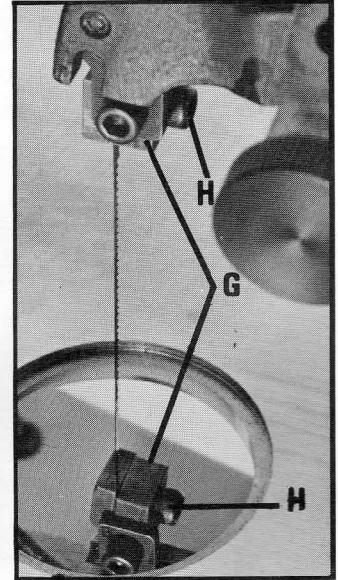

Fig. 32
6. Assemble upper and lower right angle blade holders (G) as shown in Fig. 32.
7. Assemble blade so that the front edge of the blade contacts the blade holder screws (H) and tighten screws (H) Fig. 32.